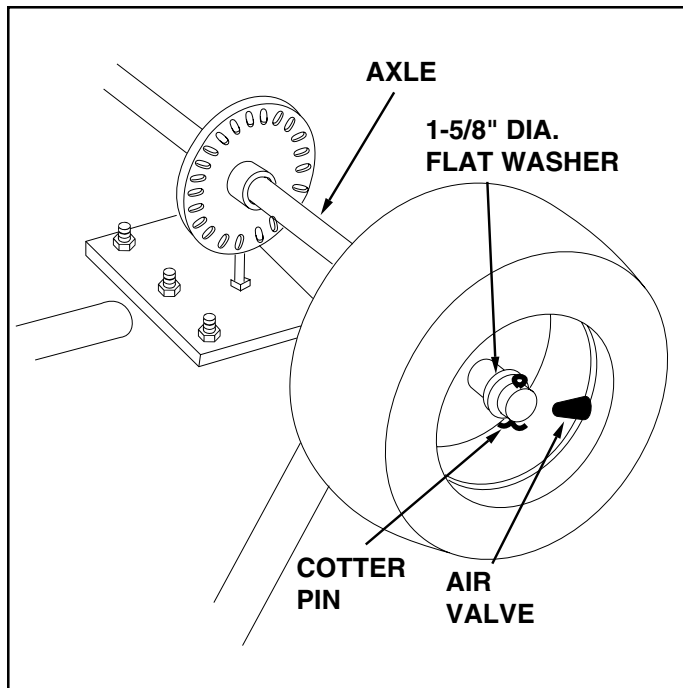

FIGURE 6
9. Place wheel assembly without hole through hub (air valve to the outside) onto axle end having the smallest and secure with 1-5/8" dia. flat washer and 1/8" x 1-1/2" cotter pin. See figure 6. Use extra 1-5/8" diameter flat washer if needed to take up play.